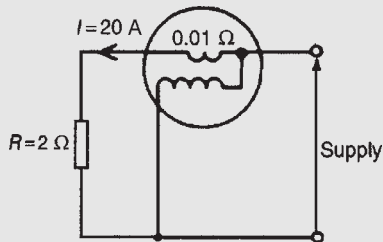

Figure 10.13
Problem 6. (a) A current of 20 A flows through a load having a resistance of 2 Ω. Determine the power dissipated in the load. (b) A wattmeter, whose current coil has a resistance of 0.01 Ω is connected as shown in Fig. 10.13. Determine the wattmeter reading.
2. (a) A current of 15 A flows through a load having a resistance of 4 Ω. Determine the power dissipated in the load. (b) A wattmeter, whose current coil has a resistance of 0.02 Ω is connected (as shown in Fig. 10.13) to measure the power in the load. Determine the wattmeter reading assuming the current in the load is still 15 A. [(a) 900 W (b) 904.5 W]